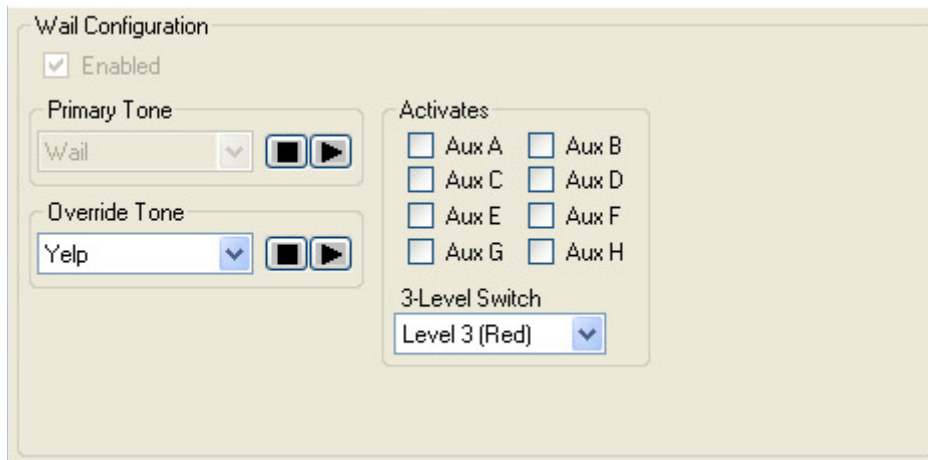

Figure 14
The available options are (see Figure 14):
- **Activates** – If SirenLock is disabled, the WAIL push-button can activate the 3-Level Switch and any of the eight Auxiliary push-buttons. Figure 14 is shown with SirenLock disabled.
- **Activates** – If SirenLock is disabled, the YELP push-button can activate the 3-Level Switch and any of the eight Auxiliary push-buttons. Figure 14 is shown with SirenLock disabled.
- **Activates** – If SirenLock is disabled, the ALT TONE push-button can activate the 3-Level Switch and any of the eight Auxiliary push-buttons. Figure 14 is shown with SirenLock disabled.